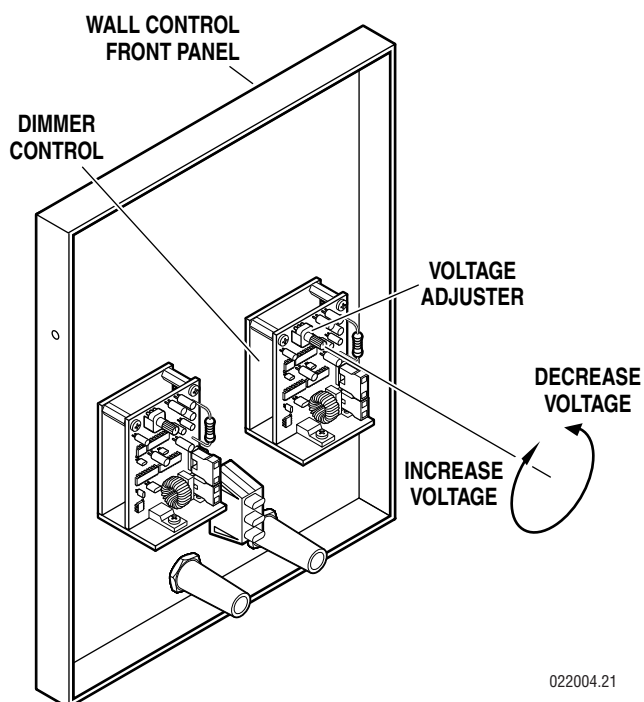

Figure 4-16. Voltage Adjustment (ST19WC)
b. Adjust the voltage to the lighthouse by turning the adjuster on the back of the appropriate dimmer control in the wall control. See figure 4-16.